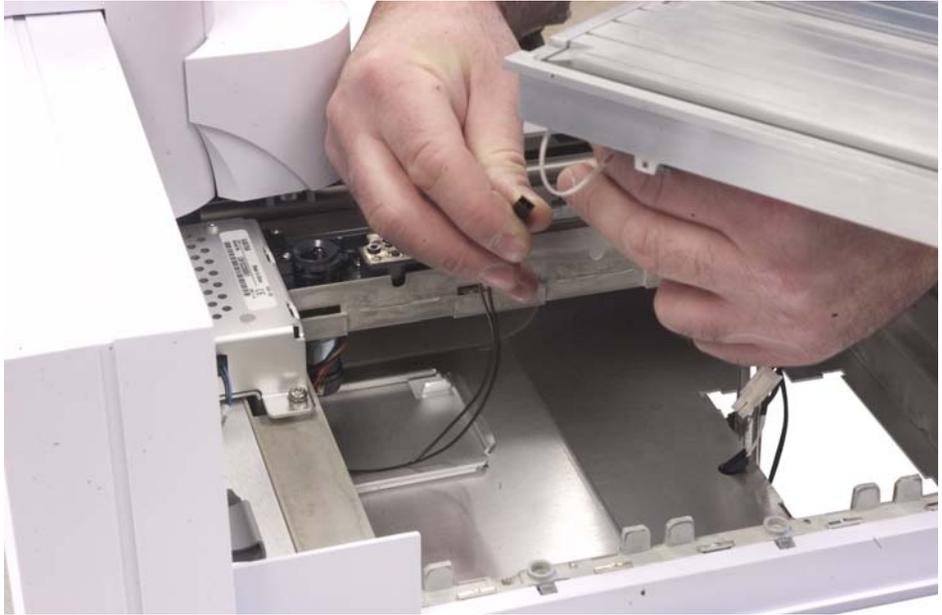

Figure 45 Connecting cables
- 26** Connect the cable found at the bottom of the sample tray to the matching cable harness on the Peltier module, then run the loose cables through the accessory opening (Figure 45).